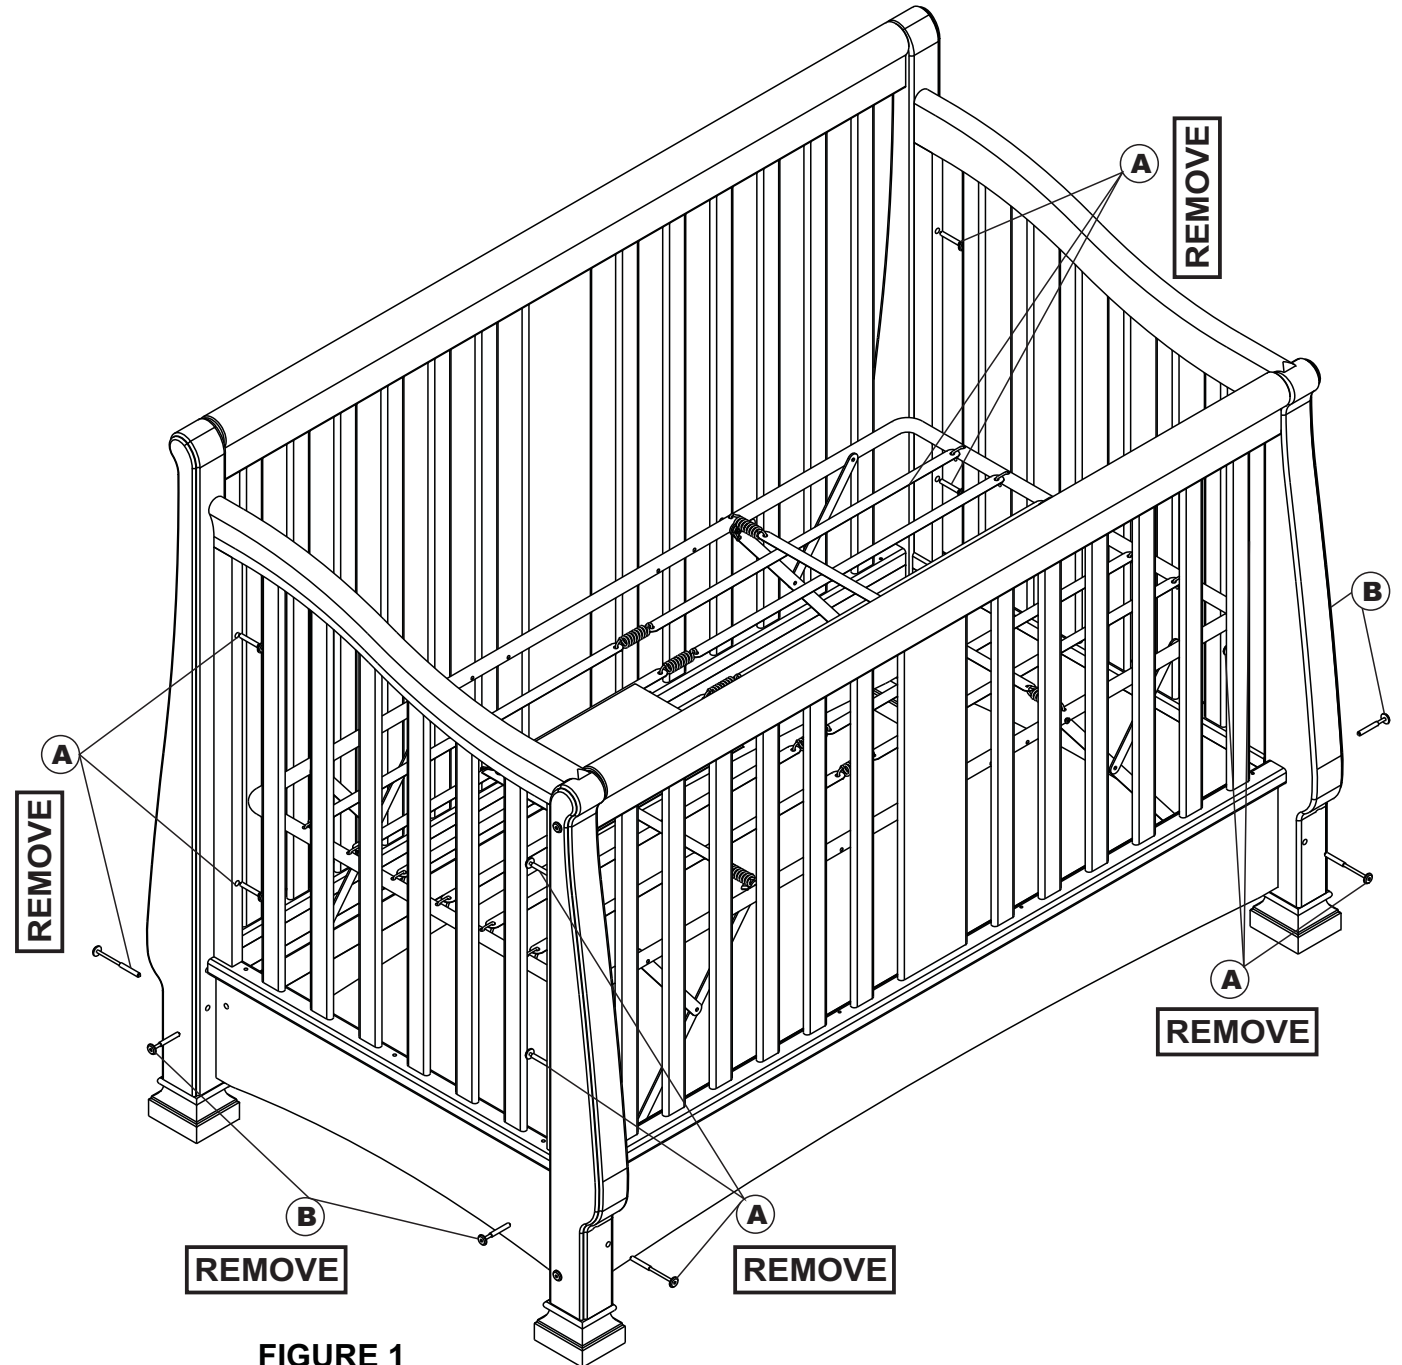

FIGURE 1
Using the Allen wrench (4) supplied, remove all the 16 Allen bolts shown in Figure 1. Start with the 12 Allen bolts labeled A in Figure 1 then continue with the 4 bolts labeled B. Please, take care not to drop and scratch the resulting parts of your crib.